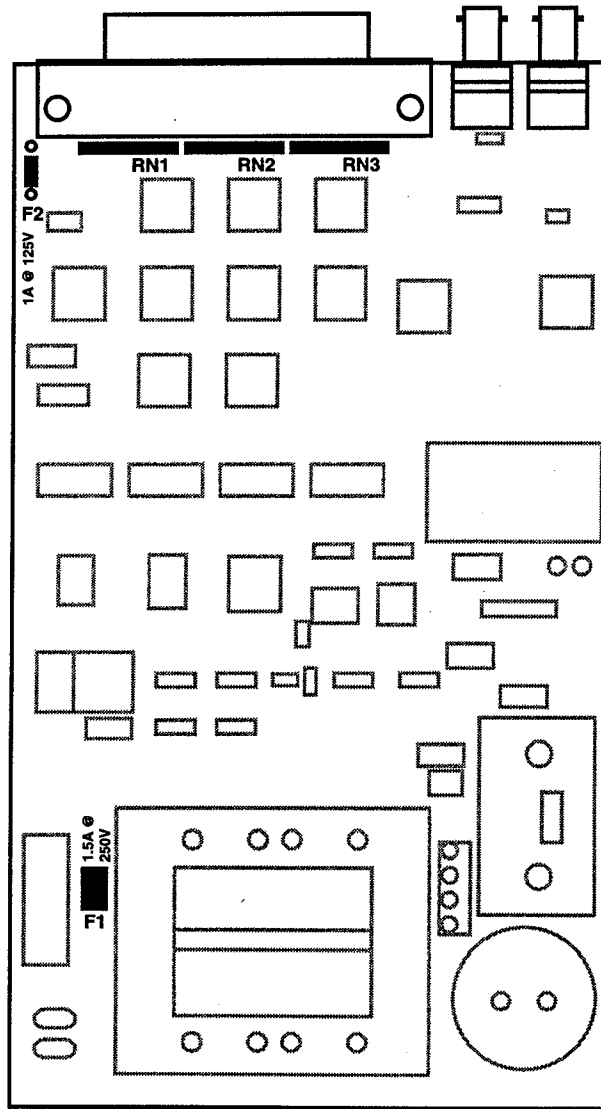

Figure C-2. A single-ended Extender's circuit board.
3. Gently separate the two halves of the unit and examine the Extender's circuit board; compare it to the illustration in Figure C-2 (on page 30, for the single-ended models) or C-3 (on page 31, for the differential models) to find any components you need to remove. "F1," close to the bottom of the picture, is the input-power fuse; "F2," at the top left of Figure C-2 only, is the terminator fuse (used in the single-ended models only—the replacement is small and green as opposed to the larger yellow original); and "RN1" through "RN3" (single-ended models) or "RN8" (differential models), at the top of the picture, are the terminators ("resistor networks") themselves.